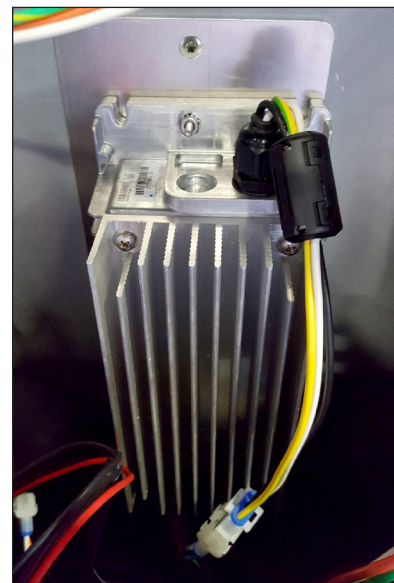

Figure 25: Power Supply Mounting
2. Use a Torx T25 screwdriver to remove the two screws that hold the power supply to the mounting bracket to the display backsheet. Refer to **Figure 25**.